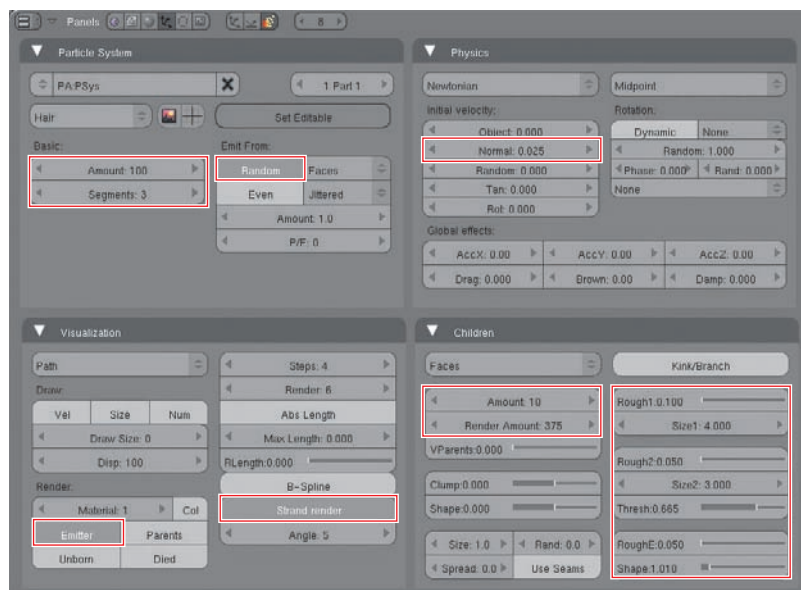
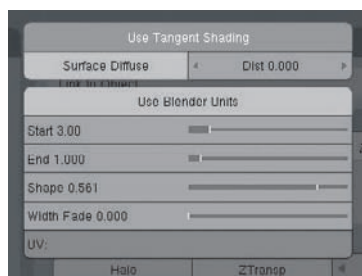

Figure 4.63 Grass material
Figure 4.64 Strand settings
3. Add materials for the grass and the dirt. In the example, I've set the grass material index to 1 and the dirt material index to 2, which means it's necessary to reassign the base mesh material to ensure that the ground is made of dirt. The grass material is shown in Figure 4.63. The color values are R: 0.157, G: 0.725, and B: 0.170. It's not necessary to have any transparency set, so ZTransp is off and Alpha is 1. I used the Minnaert diffuse shader, which is good for making velvety surfaces that collect light from certain angles, with the Dark factor set at 1.262. The Specular shader is Phong with Spec at 0.4 and Hard at 36. The Strand settings are shown in Figure 4.64. The strands start at 3 pixel widths and taper to 1 pixel width. The shape is set to 0.56 to create a convex curve typical of a blade of grass. I used three separate cloud textures, shown in Figure 4.65, for coloring the grass. One is a midrange green, another is a darker green, and one is a light brown. The midrange green is mapped to Strand coordinates, and the other two are mapped to Orco coordinates.